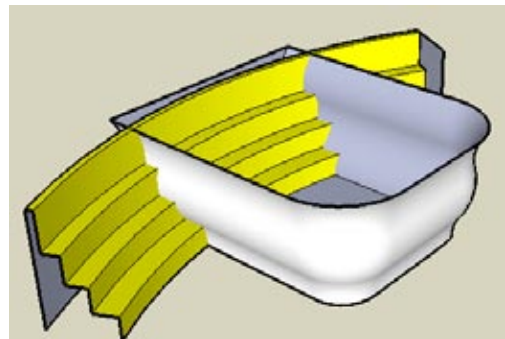

Figure 4-68
- The Follow Me path for this face is another extended path, going past the back of the tub steps, so the curved walls will be easy to trim behind the steps. Select all of the top edges of the box as the Follow Me path (not including the edge along the back face) and run Follow Me on this face. This creates the curvy walls of the hot tub. If you have extra vertical faces around the tub, erase them (Figure 4-68).